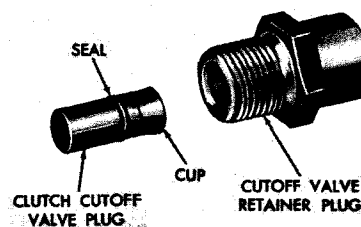

Fig. VI-8. Clutch cutoff valve plug and associated components (hydraulic type)—later model
(2) Remove the clutch cutoff valve plug from the retainer plug. Remove the cup and seal from the valve plug (fig. VI-8).
(3) Complete the disassembly by following instructions in para 2a(5) through (11), above.
c. Assembly (items 17 thru 22, B, foldout 15)
(1) Follow instructions in para 2c(1) through (9), above.
(2) Install seal ring 19, into the groove on plug 18. Install cup 20 onto the projection on plug 18. Install the valve plug, with cup and seal, into retainer plug 22. Fig. VI-8 shows the proper relation of parts.